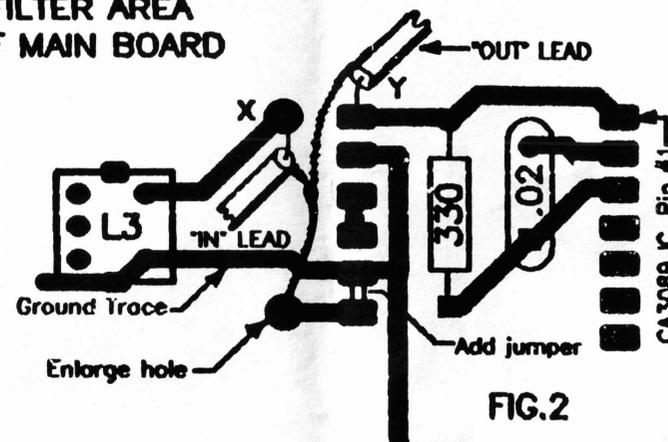

FIG.2
15.) ( ) Connect the "IN" lead to the secondary of L3 on the Main Board. The outer shield connects to ground. See Fig.2. The inner conductor connects to the point marked "X".
16.) ( ) Connect the outer shield of the "OUT" lead to the shield of the "IN" lead (Fig.2). The inner conductor connects to the point marked "Y".